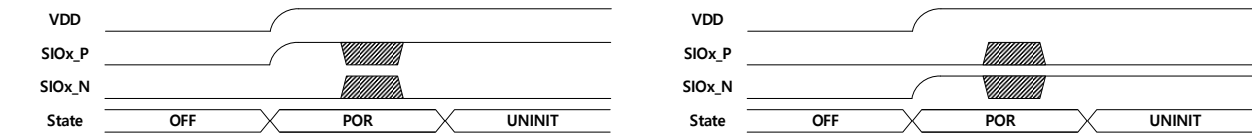

Fig 5. Startup behavior of the ID804. The example shows the MCU (left) and EOL (right) modes. After a RESET command, the device starts in the PoR state.
When the supply voltage is connected and VDD increases above the V_{POR} level, or the RESET command is received, the ID804 undergoes the following startup sequence (Fig 5. Startup behavior of the ID804.
- 1. All registers are initialized to their default value (POR in Fig 5).
- 3. The voltage levels at each SIOx pin are checked to detect the communication modes (shaded signals in Fig 5).
- 4. The ID804 enters the UNINIT mode and is now ready to receive the first command (UNINIT in Fig 5).